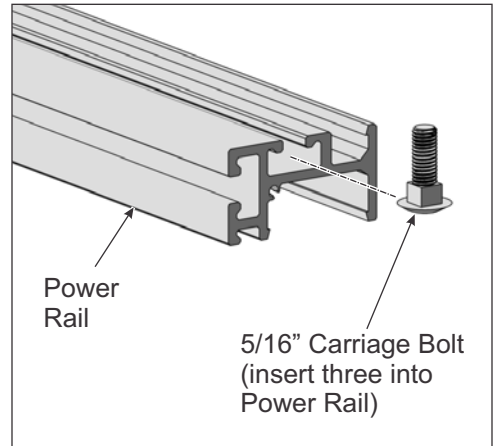

Figure 3-1: Inserting Carriage Bolts into Power Rail
- B. Insert three 5/16 inch carriage bolts into the Power Rail channel. Slide them towards the center mark of the rail. (See Figure 3-1)